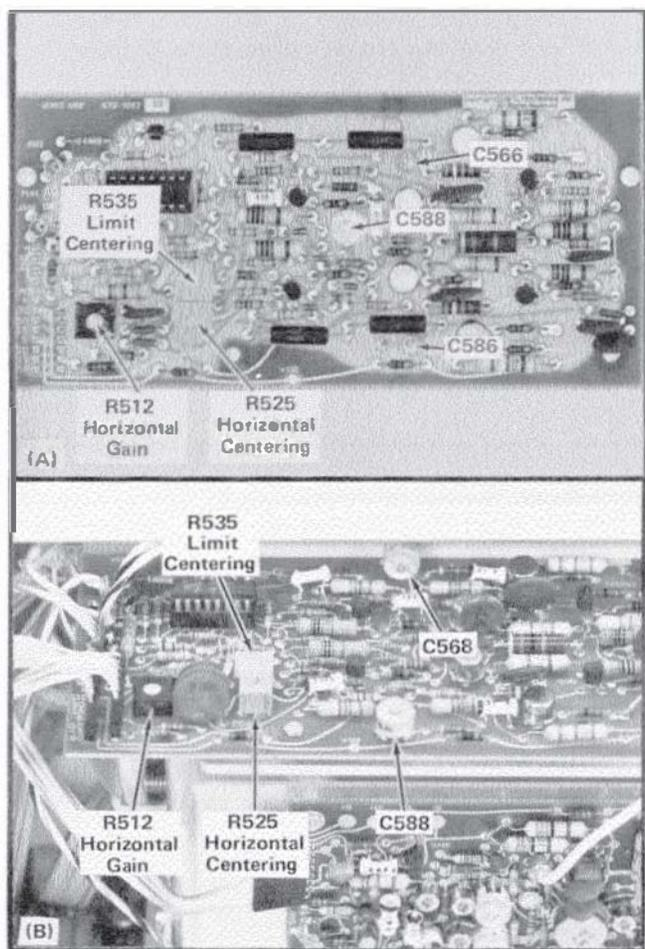

Fig. 3-6. Location of Horizontal adjustments (Horizontal Amplifier board). (A) SNB030000-up; (B) Below SNB030000.
- h. ADJUST—Limit Centering adjustment R535 (see Fig. 3-6) to match the DC levels of both waveforms.
- c. ADJUST—Horizontal Centering adjustment R525 (see Fig. 3-6) to position the spot to the vertical center line.
f. ADJUST—Horizontal Gain adjustment R512 (see Fig. 3-6) for exactly eight divisions of deflection between the second and tenth traces.